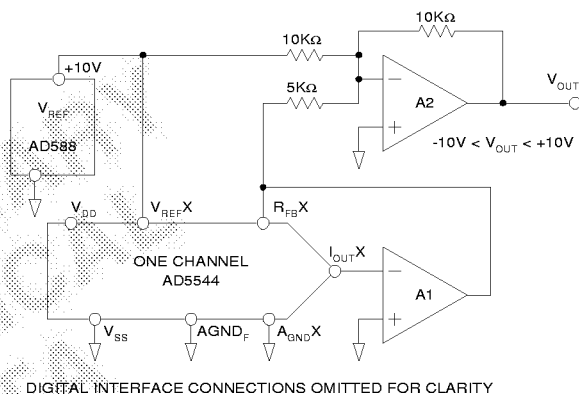

Figure 8. Four-Quadrant Multiplying Application Circuit
In some applications it may be necessary to generate the full 4-Quadrant multiplying capability or a bipolar output swing. This is easily accomplished using an additional external amplifier (A2) configured as a summing amplifier, see figure 8. In this circuit the second amplifier (A2) provides a gain of 2 which increases the output span magnitude to 20 volts. Biasing the external amplifier with a 10V offset from the reference voltage results in a full 4-quadrant multiplying circuit. The transfer equation of this circuit shows that both negative and positive output voltages are created as the input data (D) is incremented from code zero ( $V_{OUT} = -10V$ ) to midscale ( $V_{OUT} = 0V$ ) to full-scale ( $V_{OUT} = +10V$ ).